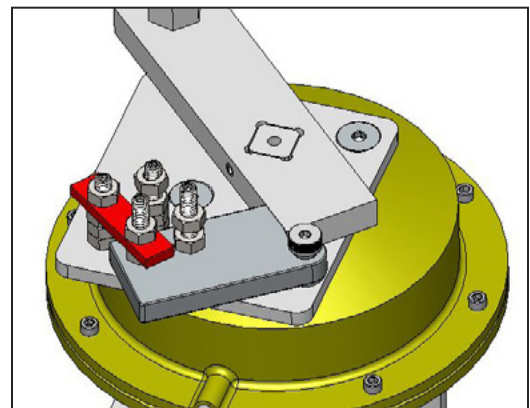

FIG. 1
**FOR SHIPPING PURPOSES, THE FUSIBLE LINK HAS BEEN REPLACED WITH A SAFETY LINK. THE RED SAFETY LINK (FIG. 1) MUST BE REMOVED AND REPLACED WITH THE FUSIBLE LINK AFTER THE VALVE HAS BEEN PUT IN LINE. IF SAFETY LINKS ARE NOT REMOVED, FUSIBLE LINK WILL NOT OPERATE CORRECTLY.**